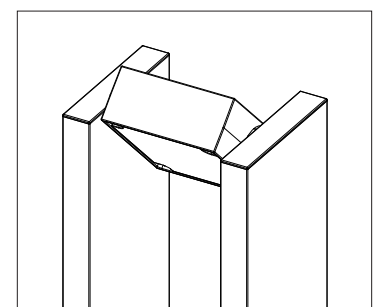

Fig. 2
**NOTE:** Light direction can be adjusted as needed up to 45° from the factory setting (see Fig. 2).